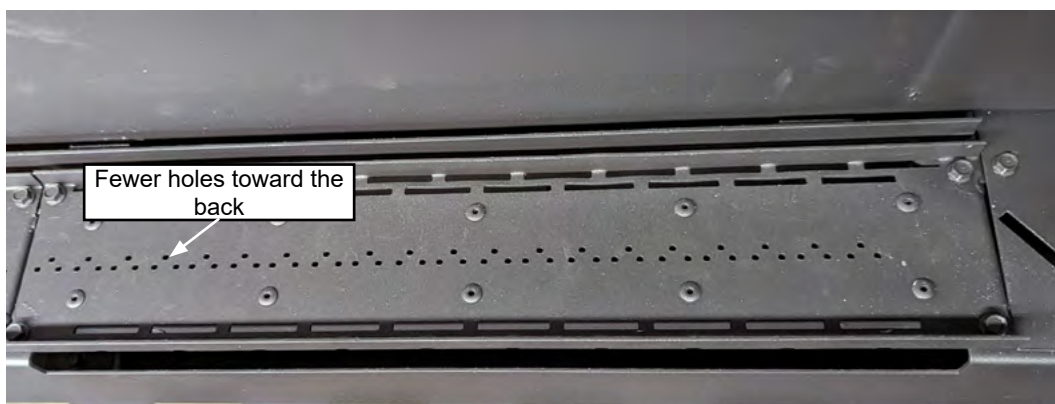

Figure 19.11.09:
**Important:** Ensure the side burners are installed in the correct orientation (see **Figure 19.11.09**). If the sides are reversed, the holes in the burner will not align and the flame will not carry over.